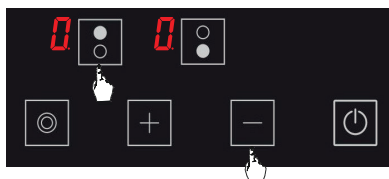

Figure 21
2. Press upper hob selection key (**●**) and minus key (**-**) simultaneously. (see Fig. 21) You shall hear a short warning signal at this time. Then, remove your fingers from the stove control panel.